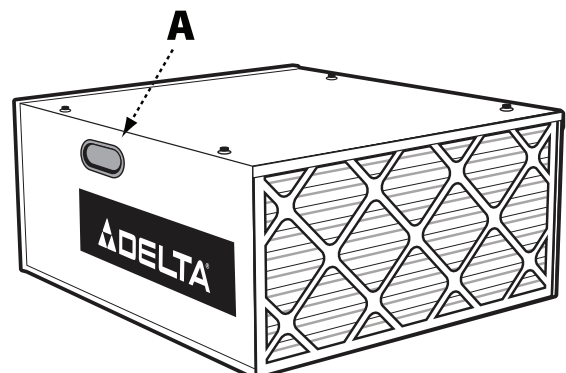

FIG. 4
The air cleaner cabinet has convenient lifting handles located on either side (one of which is shown at (A) Fig. 4). To avoid damage to the air filters, carry the air cleaner with the filters positioned away from your body.